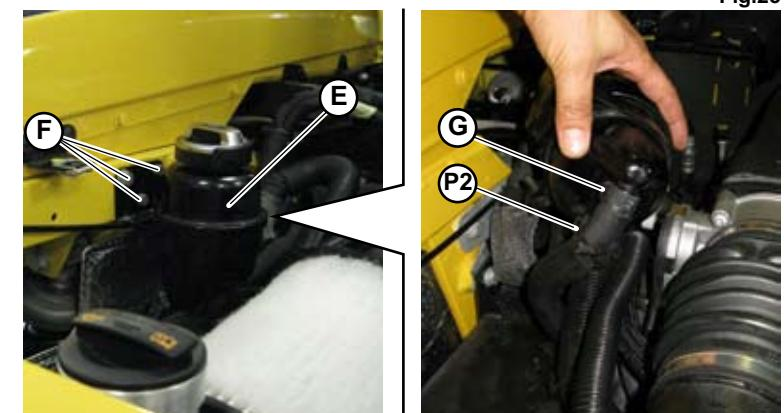

Fig.26
5. Loosen the 3 screws (F-Fig.26) to release the power steering tank (E-Fig.26) and loosen the clamp (G-Fig.26) to disconnect the rear part of the **P2** return pipe.